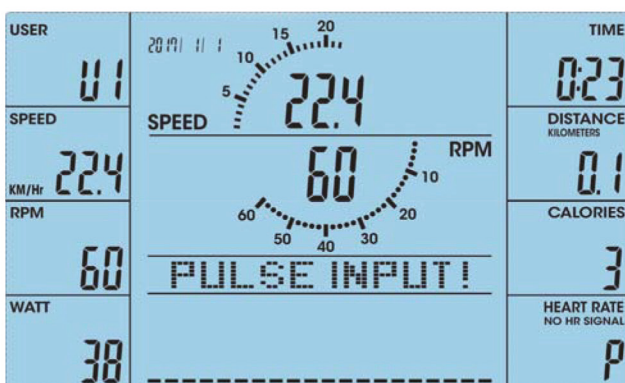

Fig. 43
3. You can enter target values for TIME, DISTANCE, CALORIES and PULSE. The training will automatically be ended when the target value is reached. To skip the target entering and immediately start with the training, press START/STOP (fig. 43). To return to the settings in the MANUAL mode, press RESET.
When there is no pulse for six seconds, the LCD screen displays PULSE INPUT as reminder until a pulse is set (fig. 43).